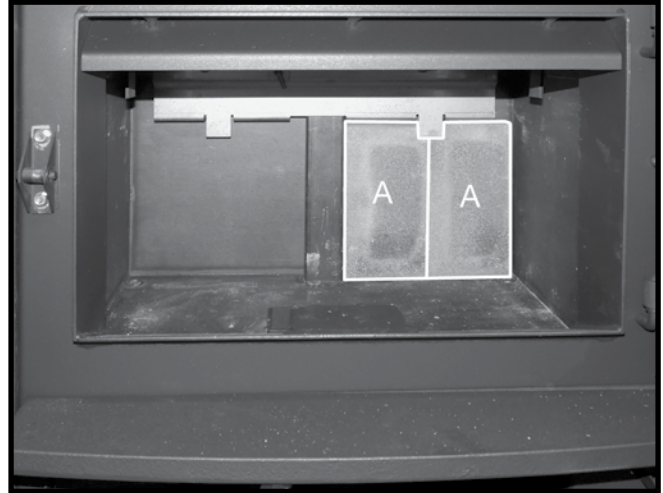

Figure 24: Installing the 2nd rear wall firebricks.
2. Slide a 2nd "A" firebrick underneath the tab on the brick rail (Figure 24).